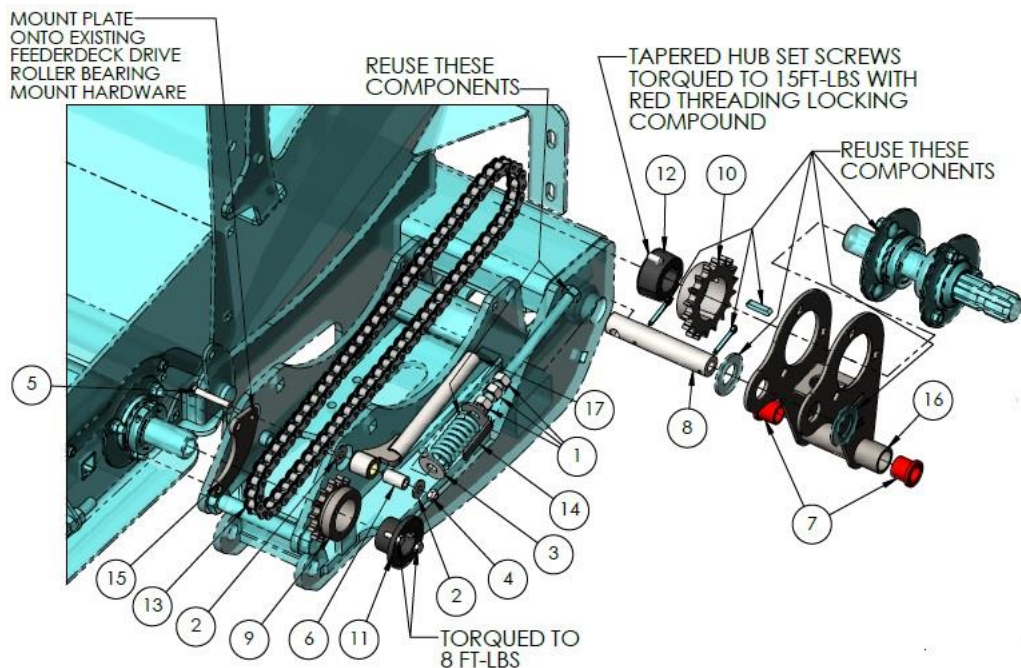

Figure 8
- The following kit can be used on Model Years 2017 and 2018 Figure 8 with the parts list for the kit Figure 9.